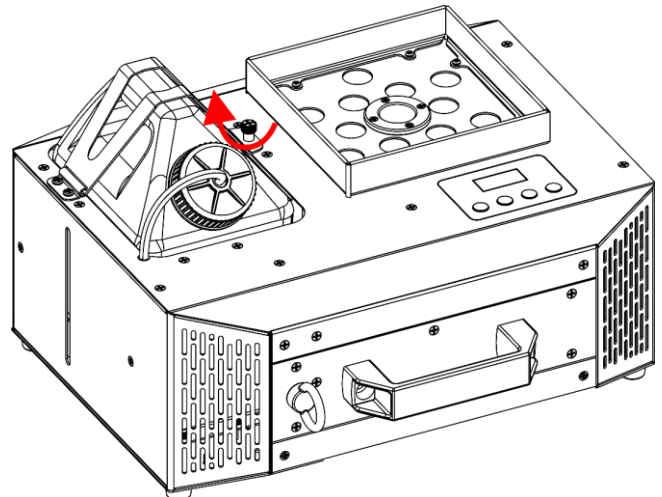

Fig. 47
- 12) Tighten the **safety screw for tank bracket (04)**, as shown in Fig. 47.